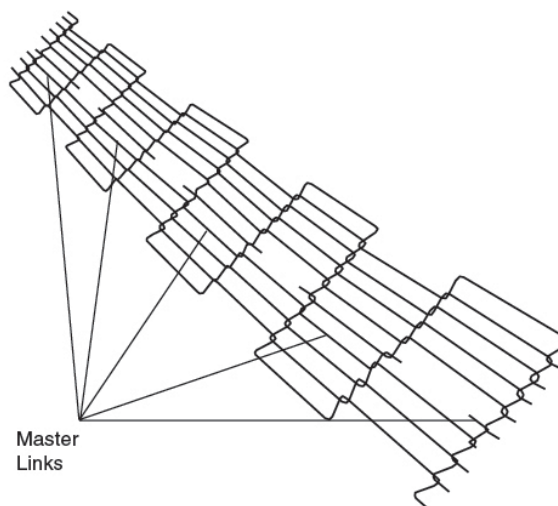

Figure 46.
1. Using long nose pliers, an entire link can be removed with the conveyor assembly either in or out of the oven. Position master links at end of conveyor as shown in Figure 46.